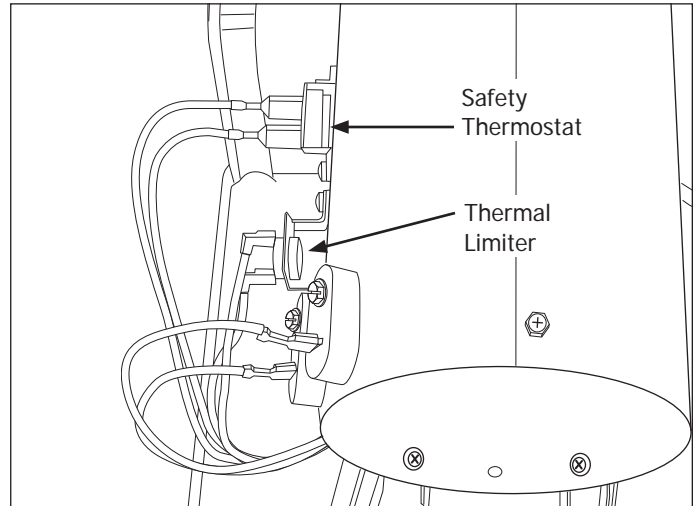

Figure 4-39.
3. Using a #2 square bit screwdriver, extract the two screws securing thermistor mounting bracket to the heater assembly. (See Figure 4-39)